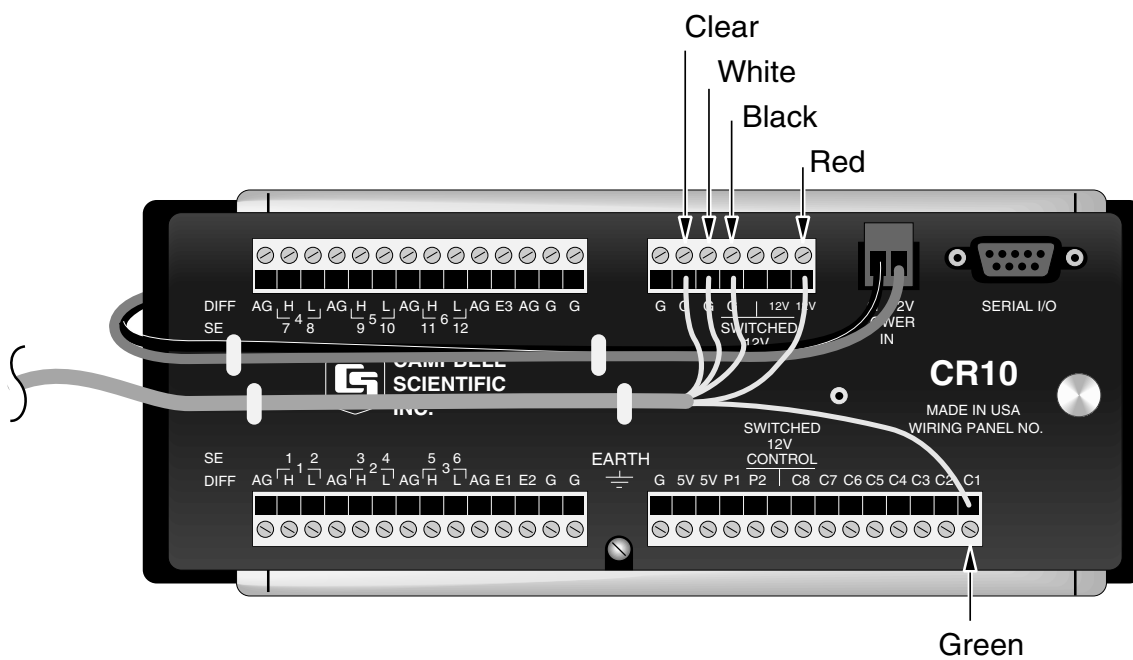

FIGURE 2. SR50 Wiring for CR10(X) SDI-12 Example
3.2 SDI-12 CR10(X) Program Example
In this example, the SR50 is mounted 2 meters above the ground. Snow depth and a quality of measurement number is the desired output. This program uses Instruction 105 (refer to the CR10(X) manual for details on the SDI-12 Recorder Instruction) to obtain a distance measurement from the SR50. The SR50's address is 0. It is assumed that a Campbell Scientific 107 Temperature Probe is used and that the SR50 SDI-12/DATA Bus is wired to control port 1 (see Figure 2).